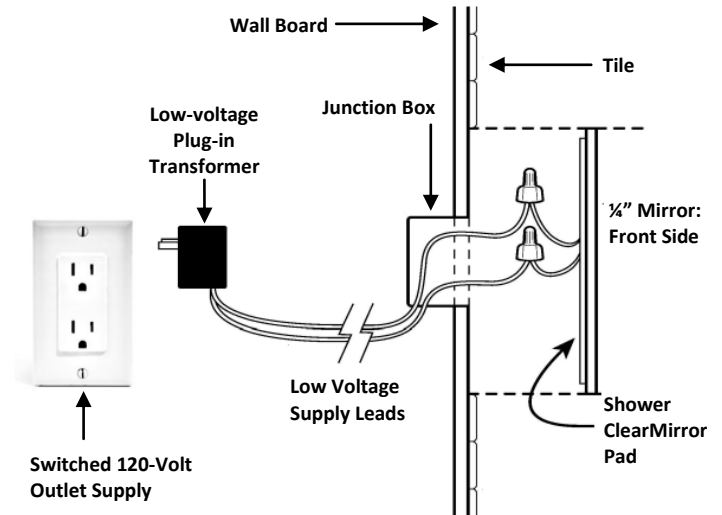

Figure 2. Running the power wires and mounting the mirror to the wall board (side view).
4. Connect power supply wires the wire leads on the mirror with wire connectors (see Figure 2).
7. Place mirror into the opening keeping a $\frac{1}{8}$ -inch border around the entire mirror (see Figure 2).